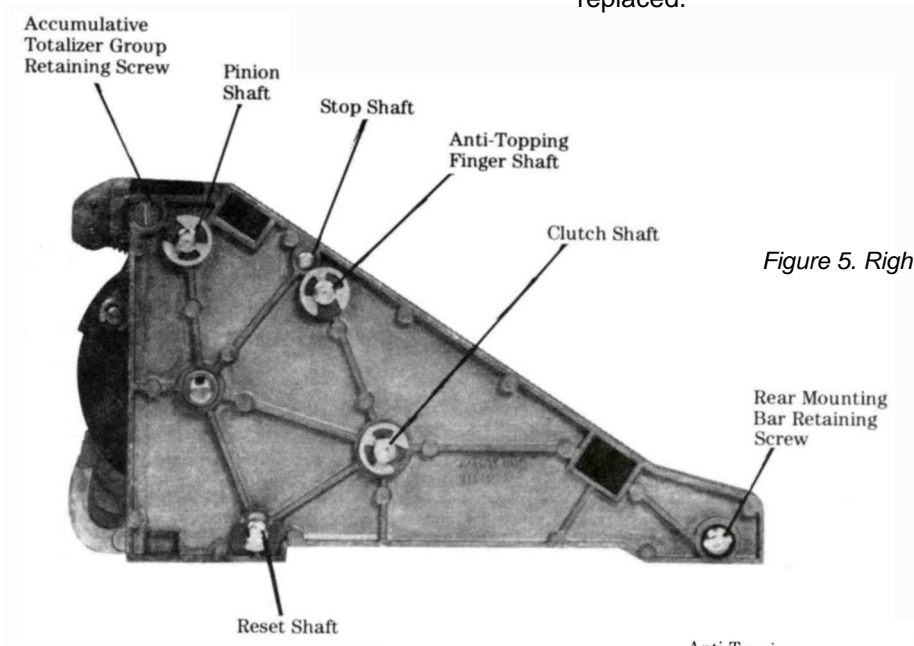

Figure 5. Right -Hand Side Plate.
- a. Remove the screws securing the totalizer group to the left-hand and right-hand Bide plates. See Figures 5 and 6.